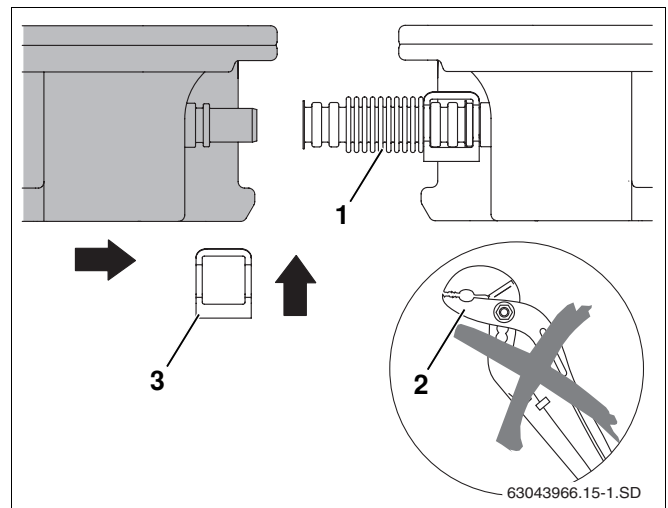

Fig. 25 Pushing second collector towards the first
- Do not use any tools, e.g. pliers (Fig. 25, **Item 2**). These could render the corrugated pipe connector unusable.
- Push the second collector on to the first in such a way that the collector connections are pushed into the preassembled corrugated pipe connectors (Fig. 25, **Item 1**) on the first collector.
- Place second bracket (Fig. 25, **Item 3**) over the corrugated pipe connector and collector connection.